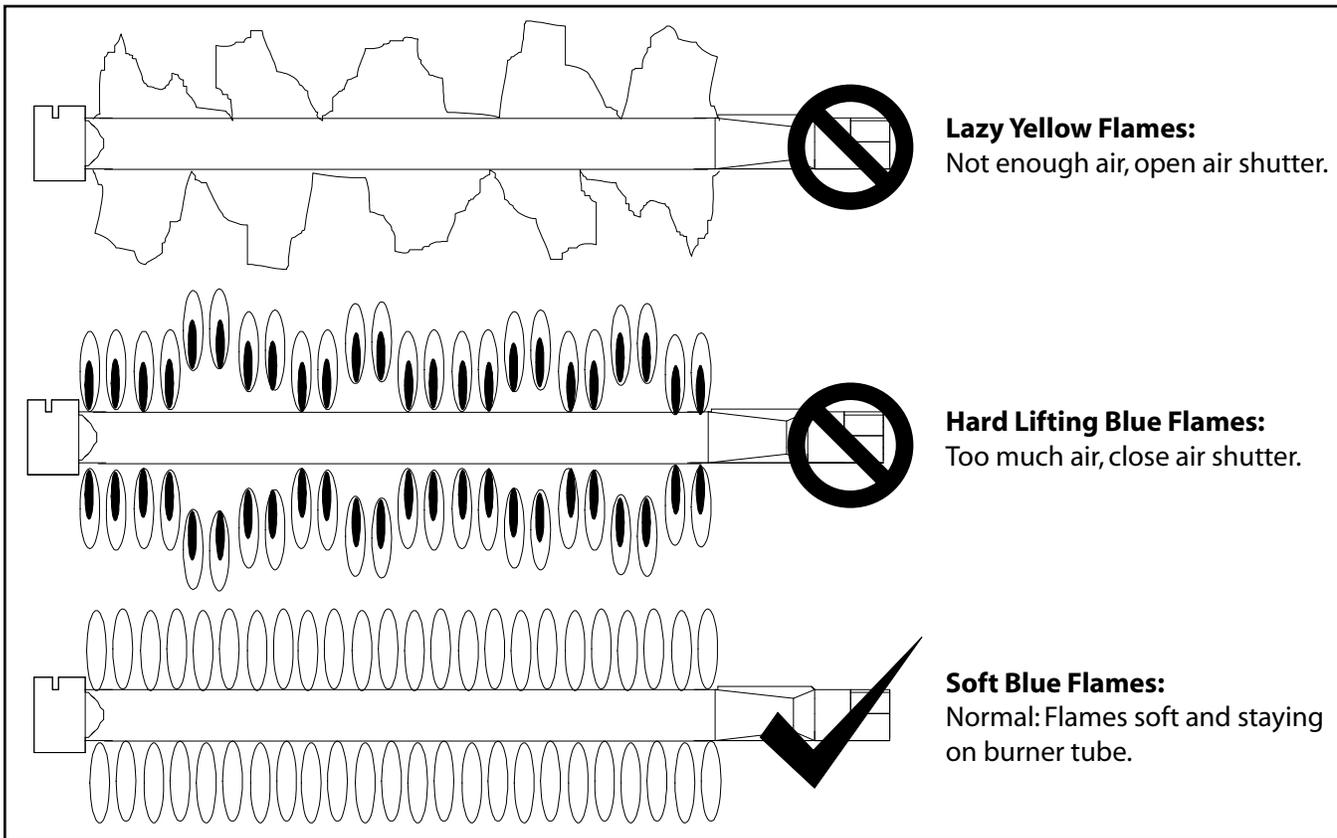

Figure 28
5. Ensure that the burner is lit and check the flame for proper appearance and operation (see Figure 28). If the electric ignitor does not operate, remove the grills from the unit and the flame diffusers beneath the grills and light the burners using a match or flame tamer.
5. If the flame was too yellow and lazy in appearance then open the air shutter until a soft blue flame is achieved. This flame should also stay on the burner tube as shown in Figure 28.